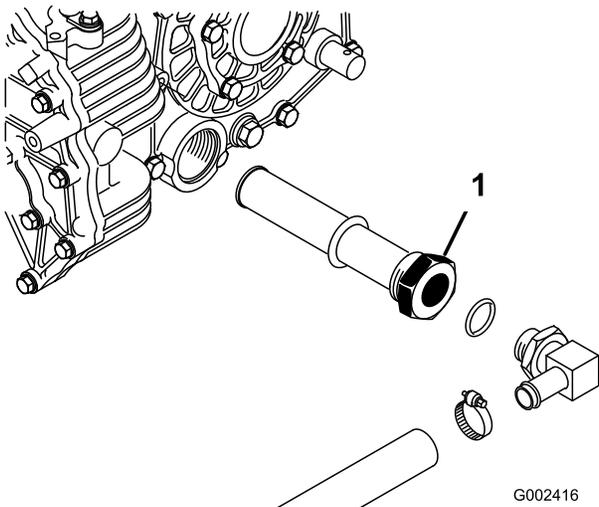

Figure 64
3. Note the orientation of the hydraulic hose and 90 degree fitting connected to the strainer on the side of the reservoir (Figure 64). Remove the hydraulic hose and 90 degree fitting.